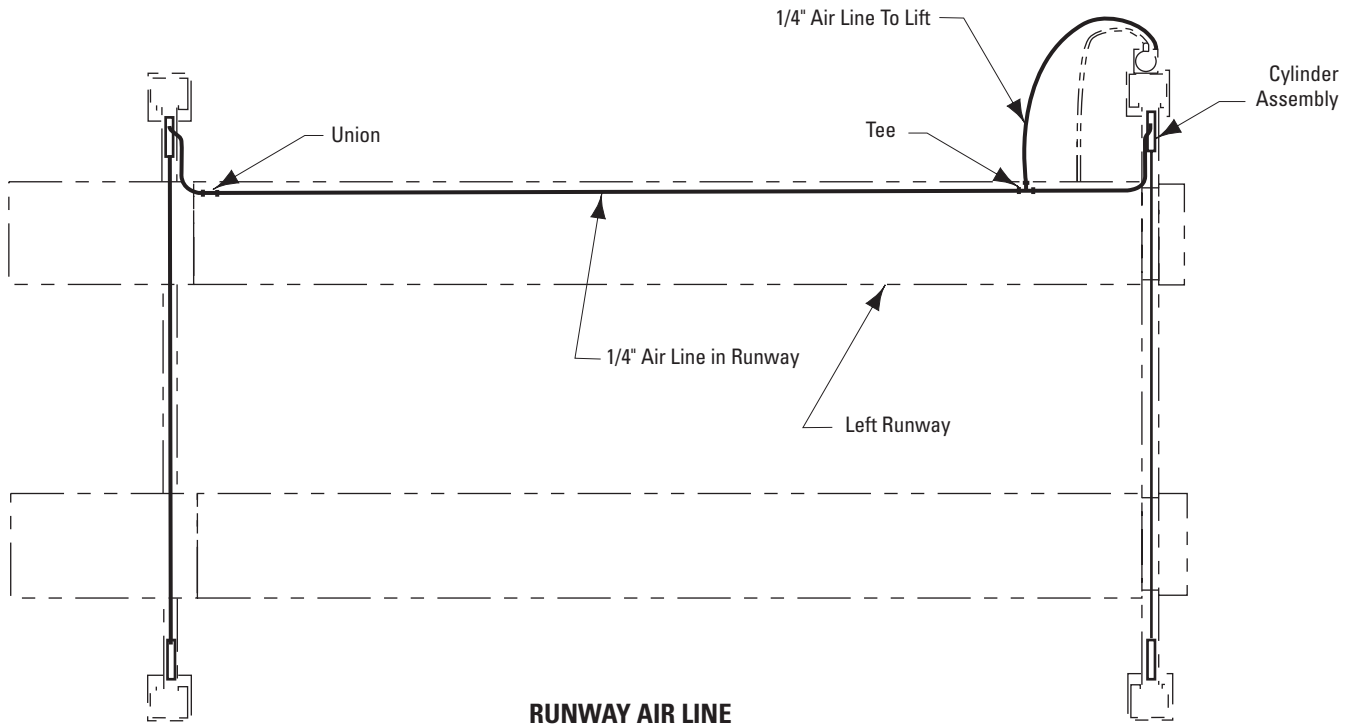

Fig. 29
- D. Attach enclosed NP280 decal ("PUSH TO RELEASE LATCHES") below button on air valve bracket, Fig. 26. Run 1/4" air line from air valve to the slot in the fixed runway. Cut airline and attach a Tee, Fig. 29, 26.
- E. Run 1/4" air line from the Tee in the front yoke through air output on the air valve, Fig. 26, and Fig. 29.